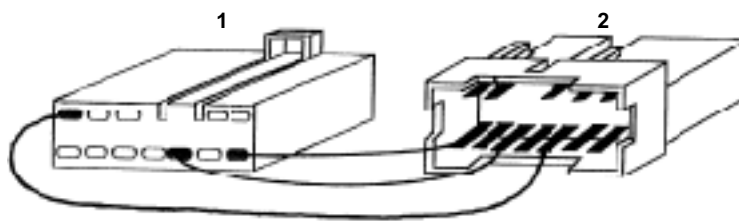

Figure 5-4 Connector and adapter for SRS system on most 1994 and earlier vehicles
- Figure 5-4—Airbag (SRS) codes for most 1994 and earlier vehicles